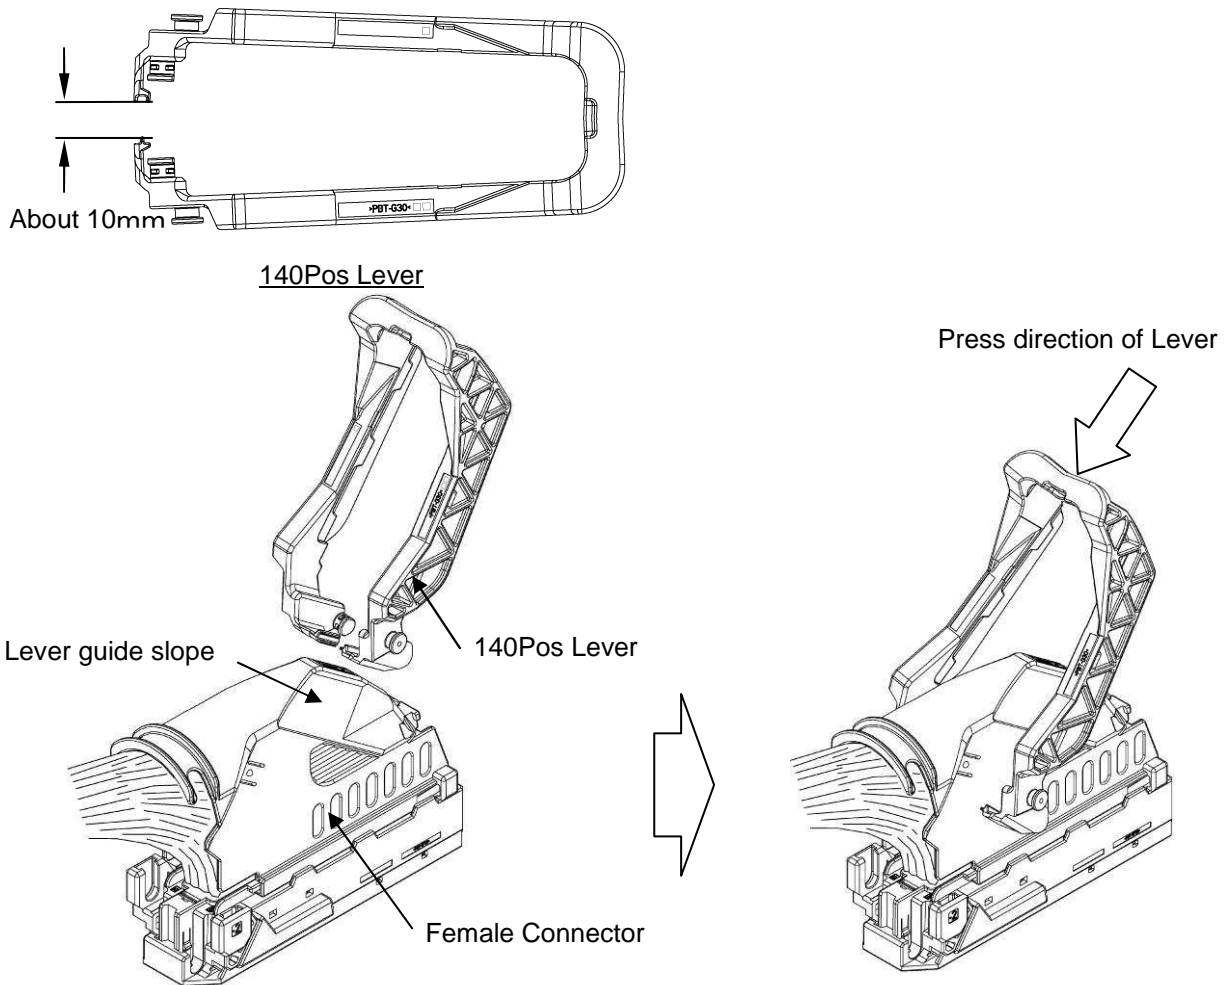

Fig.17
- ① Open the lever shaft side about 10mm, inserted in lever guide slope of the wire cover, and the lever is pushed into the direction shown in fig.17.